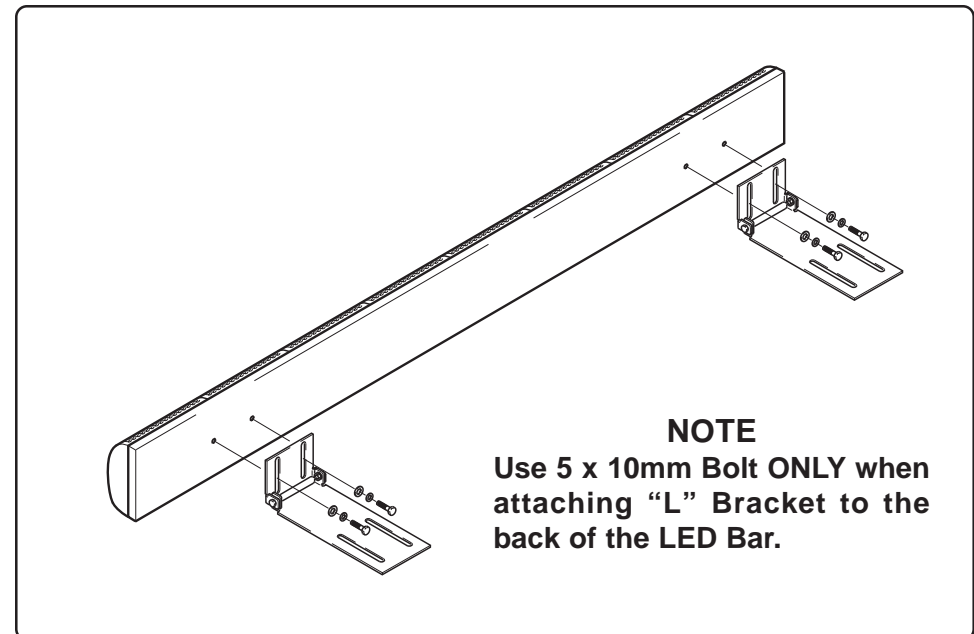

Figure 4. Light Bar Mounting
4. Turn the light bar right side up and attach the LED Traffic Master to its mounting bracket as shown in Figure 4. **Use ONLY 5 x 10mm bolts.**